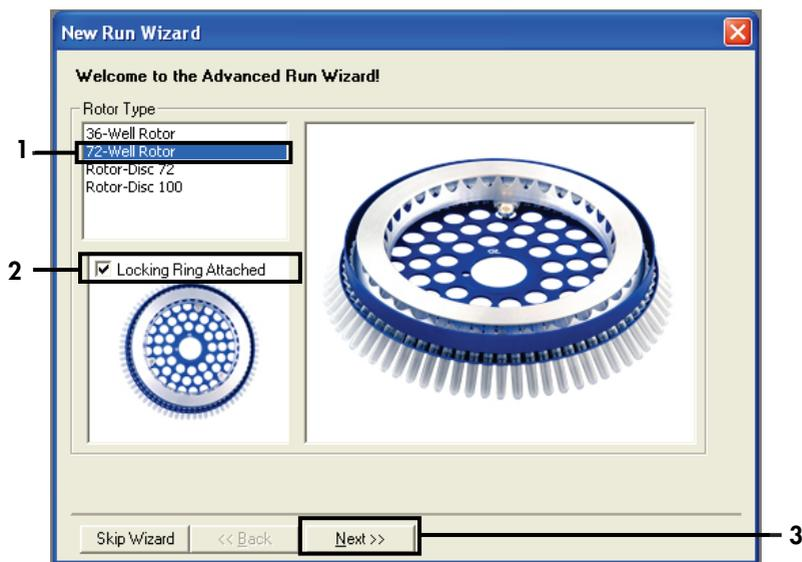

Figure 20. The “New Run Wizard” dialog box. 1 = “Rotor type”; 2 = “Locking Ring Attached” box; 3 = “Next.”
3. Select **72-well rotor** as the rotor type. Confirm that the locking ring is attached and check the **Locking Ring Attached** box. Click **Next** (Figure 20).